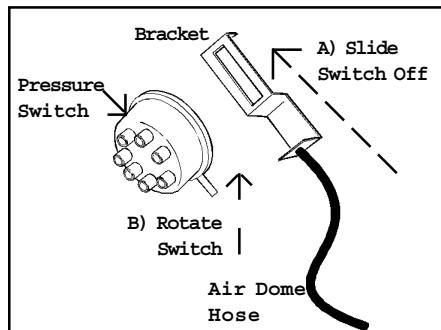

Figure 6-2
The water pressure switch is located in the console area and mounted to a galvanized bracket secured to the rear panel of the console. The air dome hose is inserted into the lower end of the mounting bracket (**Figure 6-2**). The nipple of the pressure switch is inserted into the end of the air dome hose which is secured by the lower mounting bracket.
- 3 Slide the pressure switch up on the mounting bracket, away from the air dome hose. The mounting bracket for the pressure switch is secured to the rear panel of the console (**See Figure 6-2**).